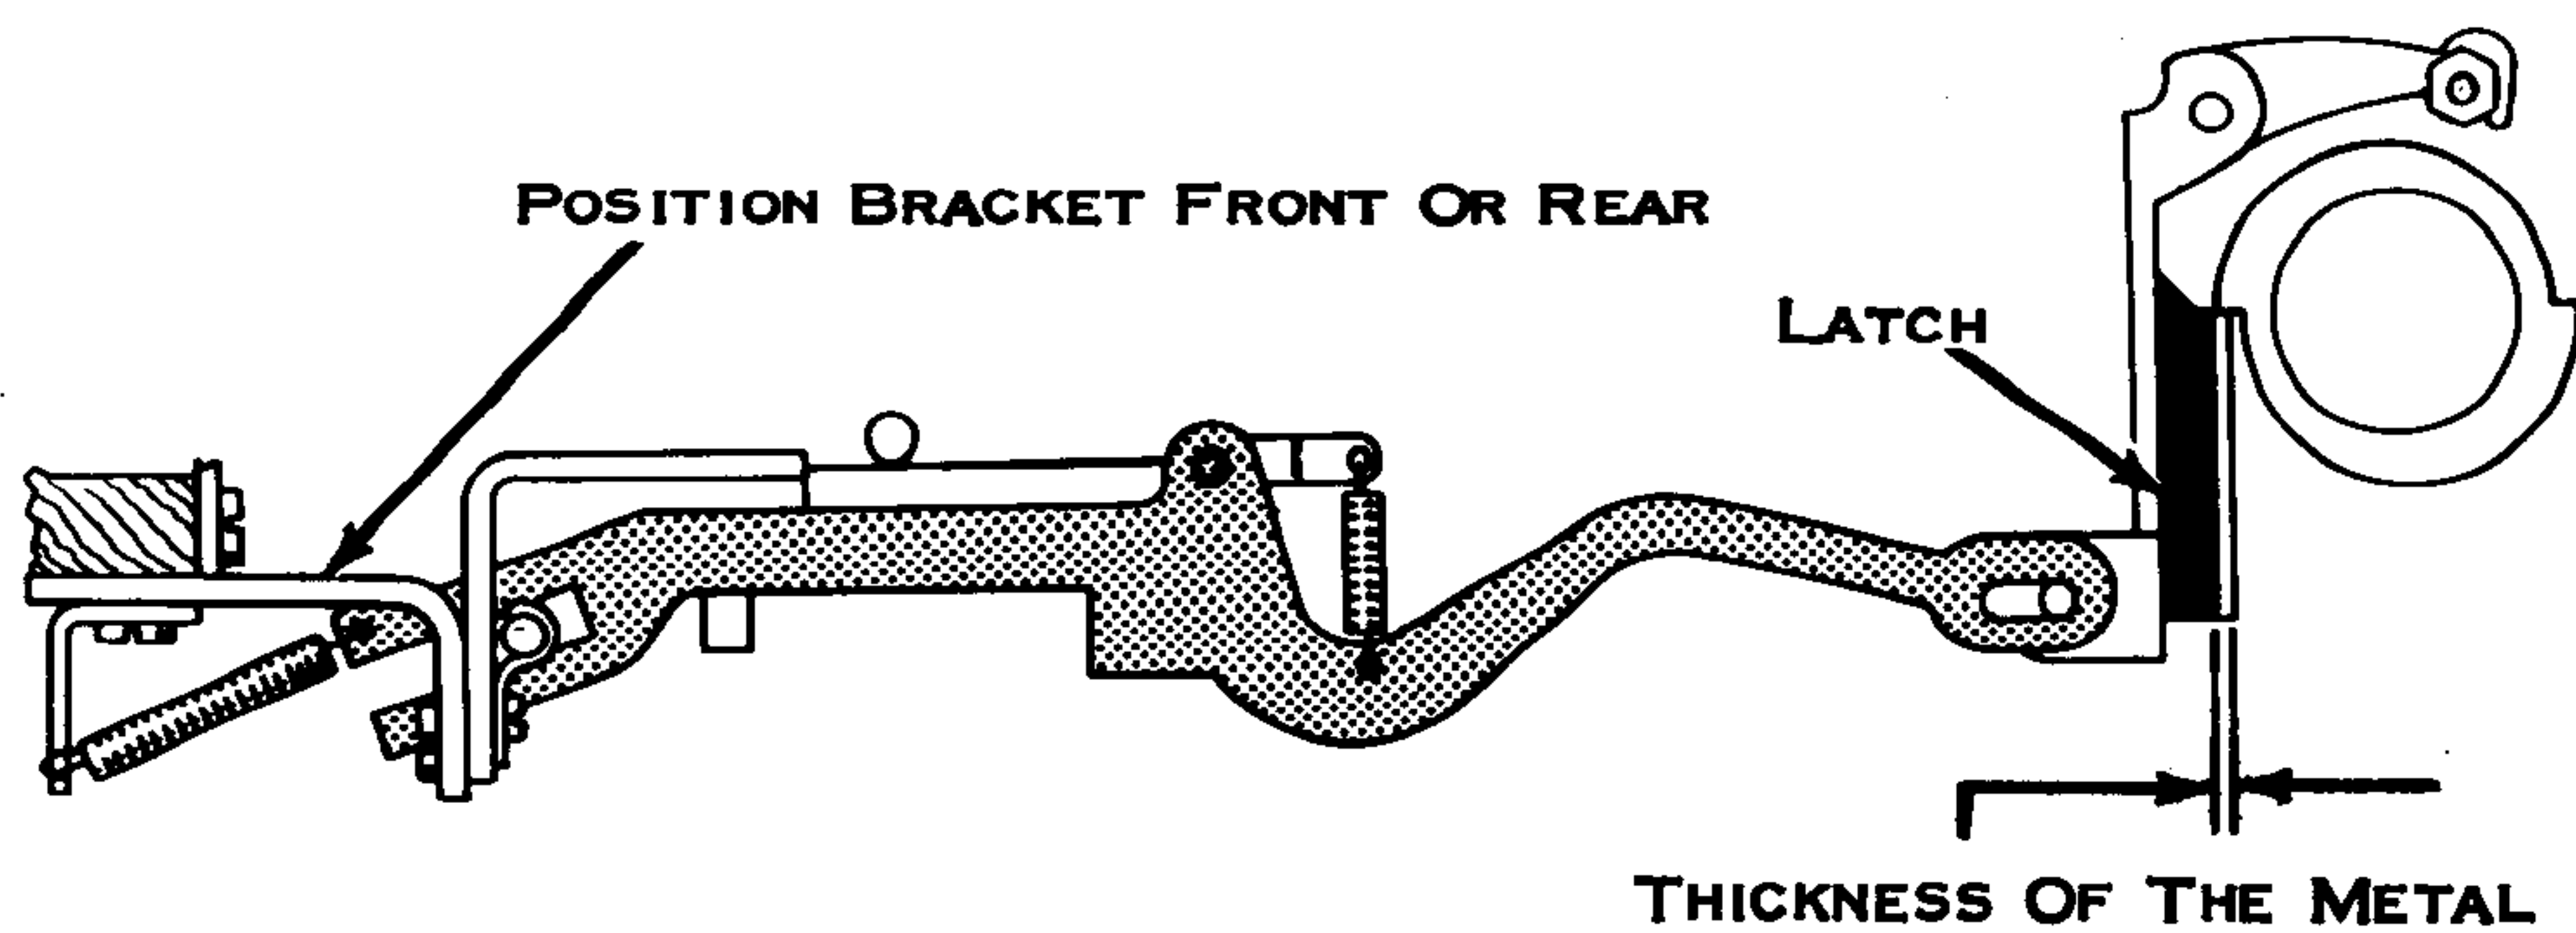

Figure 9. Cycle Clutch Latch Keeper Bracket
5. Cycle Clutch Latch Keeper Bracket (Latch Bite) - Position, front or rear, so that the cycle clutch latch engages the sleeve step by the thickness of the latch plate (Fig. 9).